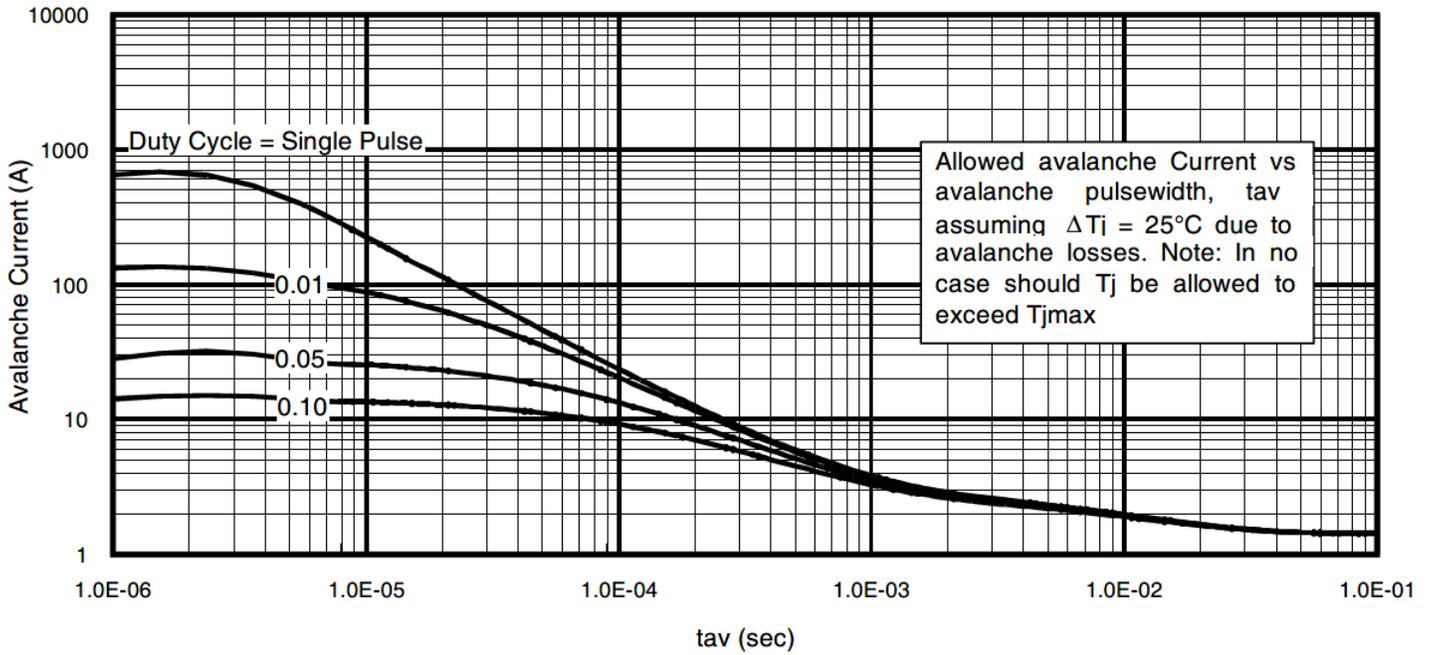

Fig. 15. Typical Avalanche Current Vs.Pulsewidth
Notes on Repetitive Avalanche Curves , Figures 15, 16:
7. ΔT = Allowable rise in junction temperature, not to exceed T_{jmax} (assumed as 25°C in Figure 15, 16).